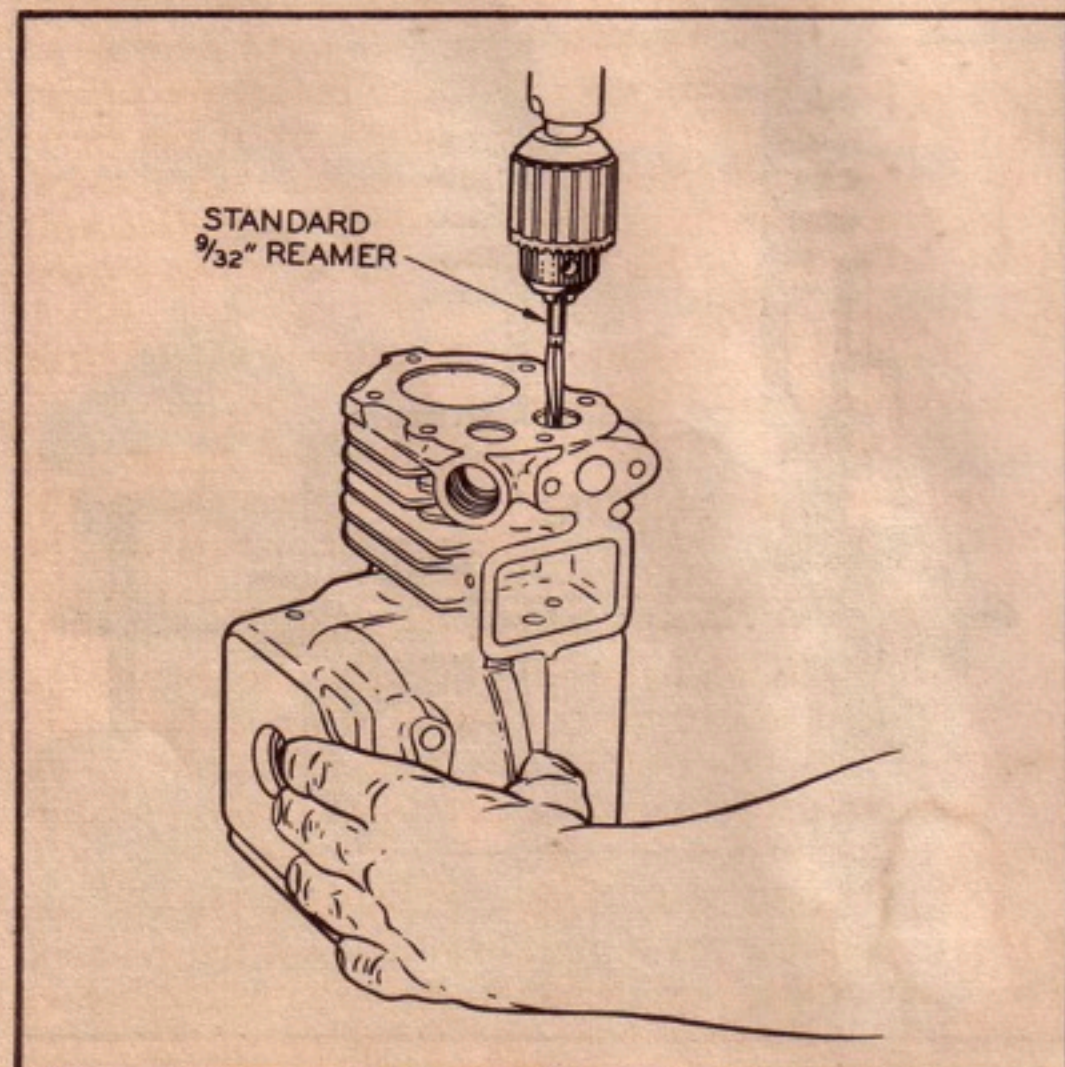

Figure C-15. Reaming Valve Guides
(1) Clean the table of a drill press so that the bottom surface of the cylinder block will lie flat against the metal table.
(2) Install the valve guide reamer (use a standard 9/32 reamer) in the chuck of the drill press. (See figure C-15.) Operate the spindle at approximately 600 rpm, and feed the reamer slowly and carefully through the valve guide. Make only one pass through the guide with the reamer.
(3) Ream the other valve guide in the same manner.
(4) Coat the valve guides with oil to prevent rusting.